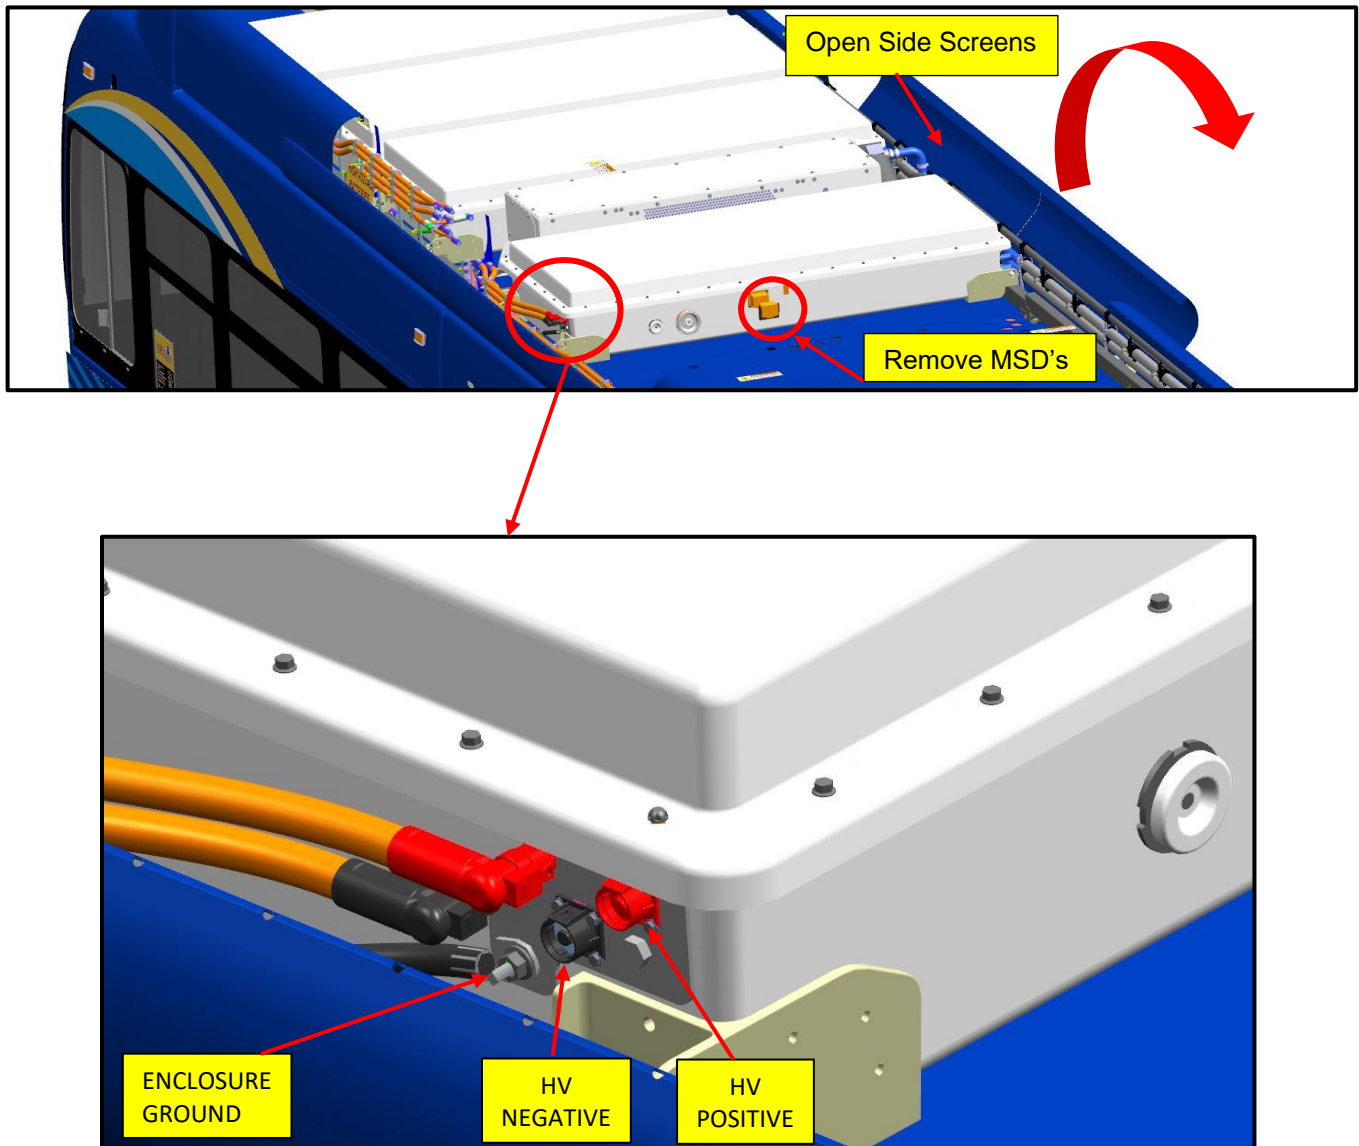

Figure 2: Side Screen and Upper ESS MSD Location Reference.
5. Gain access to the upper side screens. Remove the hardware in the top of the side screens and tilt outwards to access the ESS enclosures. Set the mounting hardware aside for re-installation. See Figure 2.
6. Locate the MSD's and remove them from each ESS unit and install a dust cover. See Figure 2.
7. Remove the Pos and Neg HV cable quick disconnects from the ESS units. Remove the ESS Ground cable and set washers aside for re-installation. See Figure 2.